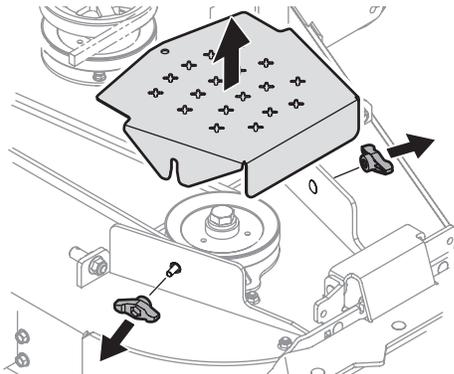

Figure 19
- Clean the top of the mower deck, under the spindle covers and belt area (Figure 19).